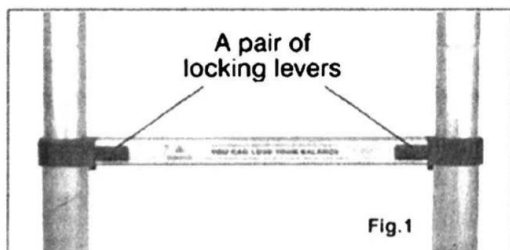

Fig.1
2. Each mechanism is connected to a locking lever visible on the outside (see Fig. 1).